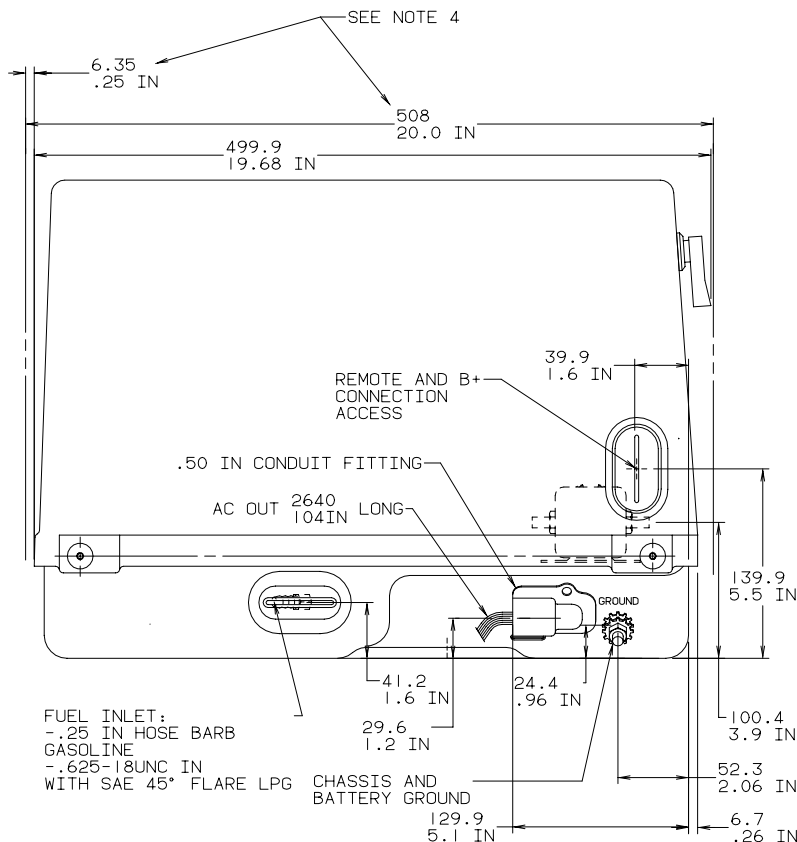

FIGURE 4-1. COMPARTMENT OUTLINE DRAWING
Minimum compartment dimensions are shown in Figure 4-1. Clearances between the genset and the compartment are included in these dimensions.
1. Install the genset in its own compartment. Allow a minimum of 1/4-inch (6.4 mm) clearance at the front, sides, back and top of the genset. See Figures 4-1 and 4-2.
6. Secure the genset mounting base to the support frame with six 5/16-18 UNC grade 5 screws. The mounting bolts must not extend more than 1/2 inch (13 mm) into the base. See Figures 4-1 and 4-2. Torque 5/16 inch mounting screws to 15 ft lbs (20 N•m).
When designing the air inlet and outlet for the genset compartment (see Figures 4-1 and 4-2), allow for the restriction of grilles and ductwork: some expanded metal grilles provide only 60 percent free-air inlet area per square foot. The most efficient grille provides only 90 percent free inlet area per square foot. Obtain the free inlet area of the grille material from the material supplier. Multiply the grille area by the free area percentage to get the free inlet area. The minimum size of the free air inlet is 40 in² (258 cm²). The compartment size, air inlet opening size and grille design must meet the minimum air inlet opening requirements.
⚠ WARNING *High temperatures in the compartment can present the hazard of fire, which can result in severe personal injury or death. To meet ANSI and CSA temperature rise requirements for vehicles, the layer of insulation must not reduce the minimum compartment size specified in Figure 4-1.*